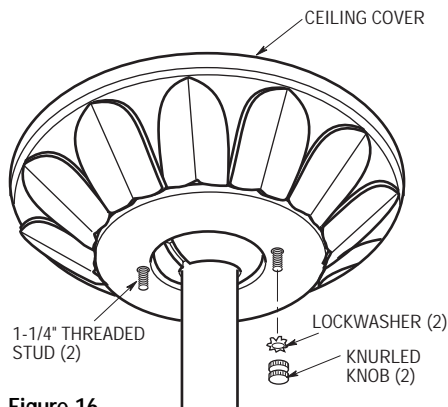

Figure 16
- 5. Lift the ceiling cover up to the threaded studs and turn until the studs protrude through the holes in the ceiling cover (Figure 16).
- 6. Secure the ceiling cover in place by sliding lockwashers (supplied) over the threaded studs and installing the two knurled knobs (supplied). (Figure 16). Tighten the knurled knobs securely